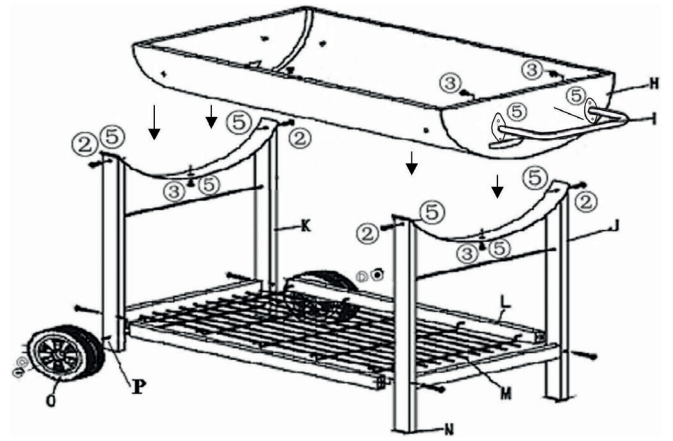

Fig. 2
3. Fix the support legs (J and K) to the fire bowl (H) using bolts (2) and nuts (5) and assemble the middle of the fire bowl and the support legs with bolts (3) and nuts (5). **(Fig. 2)**
4. Fix the handle (I) to the side of the fire bowl (H) by using bolts (3) and nuts (5). **(Fig. 2)**